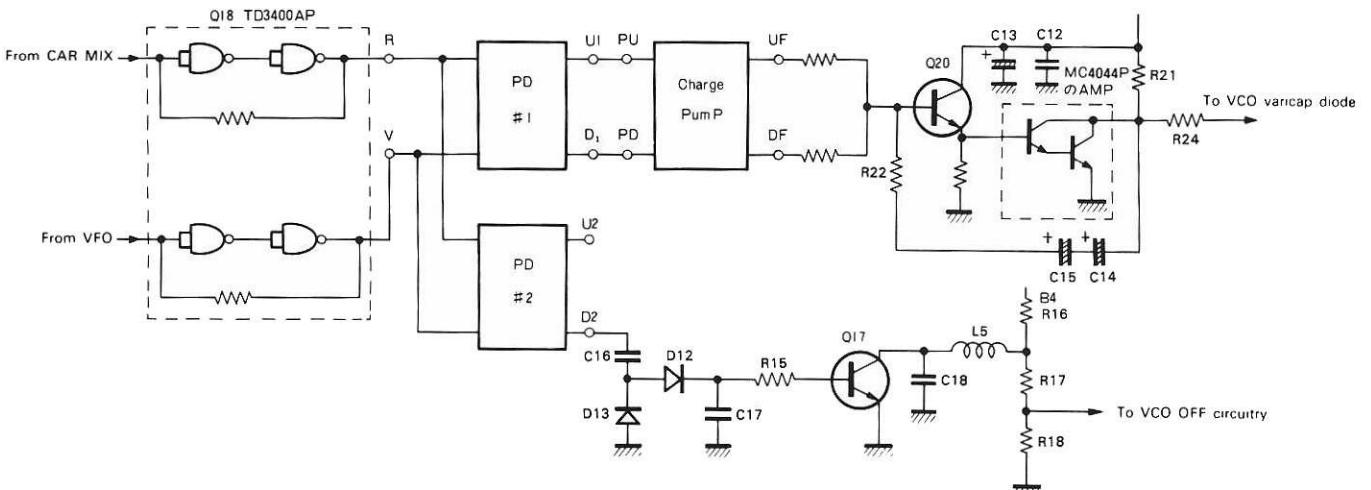

Fig. 8 TS-820 phase detector circuit
(receive) and the latter is charge of CW (transmit) and FSK (transmit). The crystal oscillators used are three of 8828.5 kHz, 8831.5 kHz (AR1) and 8830.7 kHz (AR2) and other oscillators are of a variable frequency type using varicap diodes. The signal to be applied to PLL loop is generated at the CAR 1 side. Thus, when CW or FSK signals, the frequencies of which are different between transmitting and receiving, are transmitted, PLL loop is composed of CAR 1 and the transmitting carrier is generated by CAR 2. The output of the carrier mixer, after amplified by buffer amplifier Q15 and Q16, is wave shaped by NAND gate Q18 (TD3400AP) and applied to MC-4044P. Meanwhile, the output of VFO, after amplified by buffer amplifier Q13, Q14, is wave-shaped by Q18 and fed to MC-4044P. MC-4044 consists internally of a phase detector (PD), charge pump and amplifier, and it is used in this transceiver as shown in Fig. 8. The output of PD #1 is fed to the varicap of VCO through the charge pump and active filter. The output D2 of PD #2 becomes high level (constant) when either (or both) input signal is removed. By utilizing this quality, it is used as OFF circuit for VCO. If the TS-820 function is changed over to remote VFO without connecting remote VFO, PLL is not locked. Thus, under such a condition, VCO output is automatically turned OFF.